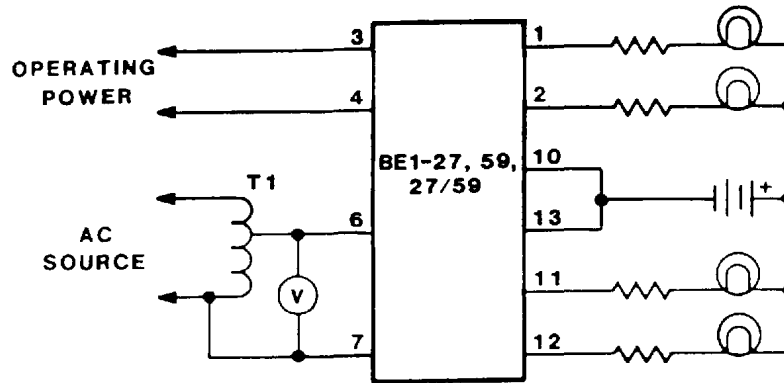

Figure 4-1. Pickup and Dropout Test Circuit Diagram
STEP 1. Connect the test circuit shown in Figure 4-1 as necessary for the functions included in your relay model. (See Table 4-1.) Turn all undervoltage pickup controls fully CCW and all overvoltage pickup functions fully CW. Set all time delay controls to 00. Adjust T1 to nominal voltage for your Sensing Input Range as indicated below.